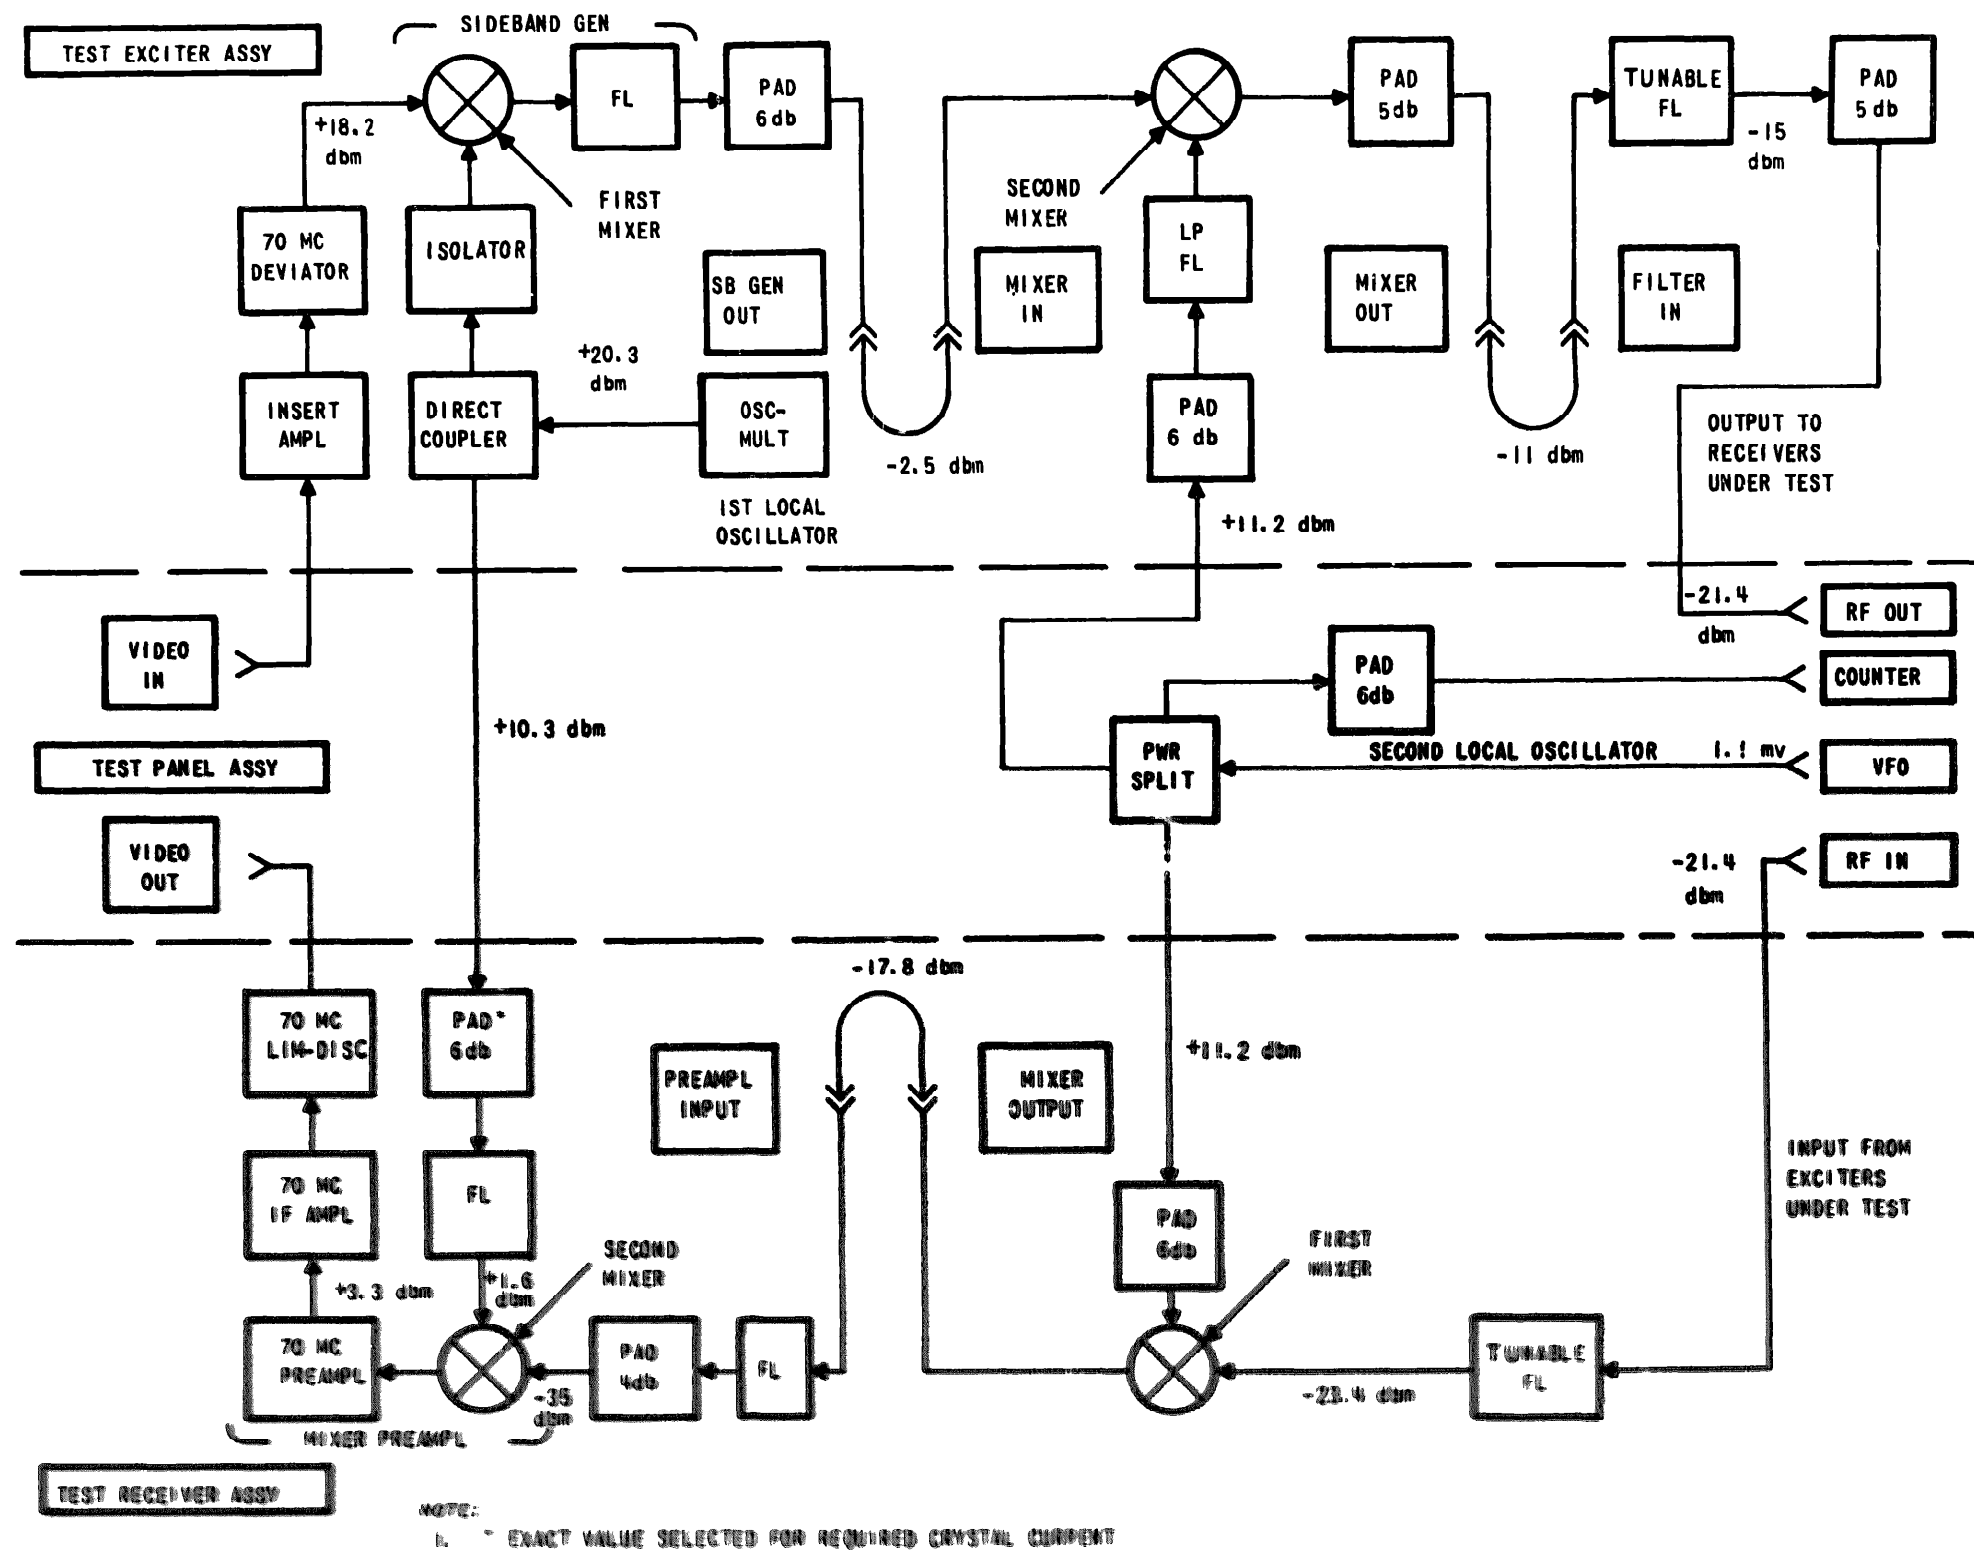

Figure 4-2. Block Diagram of Test Exciter, Test Receiver and Test Panel Assemblies
4.2.2.1 Test Exciter - The Test Exciter (figure 4-2) employs the standard LRC-3 exciter frequency conversion scheme for translating the 70-mc FM signal to the 2-Gc band. A standard LRC-3 type deviator, local oscillator, and sideband generator make up this stage. The 70-mc signal can be translated over a range of frequencies in the 2-Gc band, without having to change the frequency of the LO (local oscillator) or sideband generator, by beating this signal with a VFO (variable frequency oscillator) signal in a second mixer and using a tunable bandpass filter to select the required mixer product. The VFO frequency can be varied over a frequency range of 10 to 500 mc.
due to losses incurred in the second mixer stage. This signal level is lower than the usual output for a standard LRC-3 exciter drawer, but it is high enough for the alignment and testing of LRC-3 receiver drawers. (Typical r-f levels are shown in figure 4-2.)
4. 2. 2. 2 Test Receiver. - The Test Receiver, shown in figure 4-2, contains a basic fixed-frequency LRC-3 receiver consisting of an LRC-3 mixer-preamplifier, a 70-mc i-f amplifier, and a limiter-discriminator chassis. A frequency translation mixer, which precedes this part of the over-all receiver, translates signals in the 2-Gc frequency range to the particular fixed frequency of the LRC-3 receiver stage following it. A local VFO (variable frequency oscillator) signal is beat against the incoming signal to translate it to the value required for the particular fixed-frequency stage. The VFO frequency can be varied over a frequency range of 10 to 500 mc.